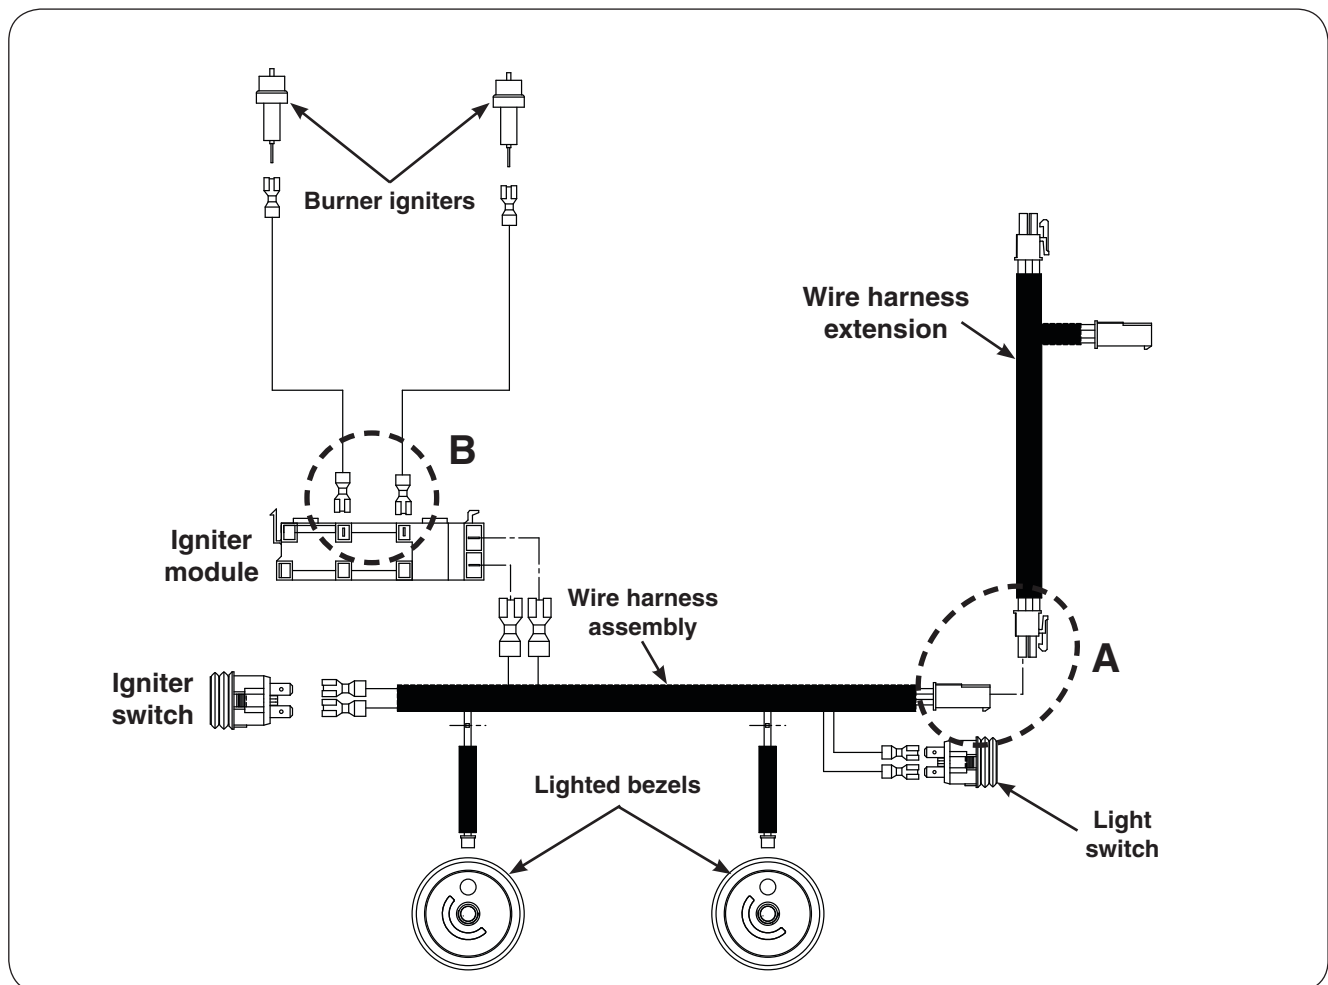

Fig. 32-1 - Wire diagram
4. Slowly lift away the lighted bezels to clear the valve stems, and carefully disconnect the wires found on the back of the bezels (use your fingernail). See Fig. 32-1.
7. Disconnect the main wire harness connection (Fig. 32-1, **A**) and the igniter wires (Fig. 32-1, **B**). It is recommended to temporarily label the wires for reference when reconnecting. See Fig. 32-1. When disconnecting, be sure to pull from the connectors, and not the wires.